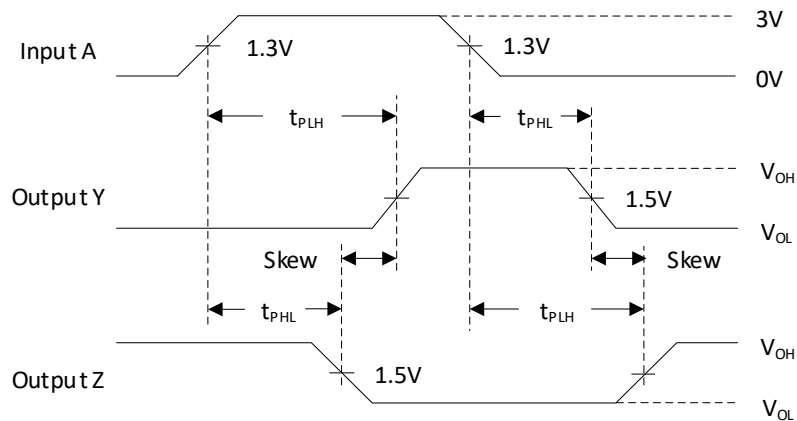

Figure 2. Propagation Delay Time and Skew Time
4. Test propagation delay time and skew time. It needs to open S1 and S2. The corresponding test waveform is shown in figure 2.